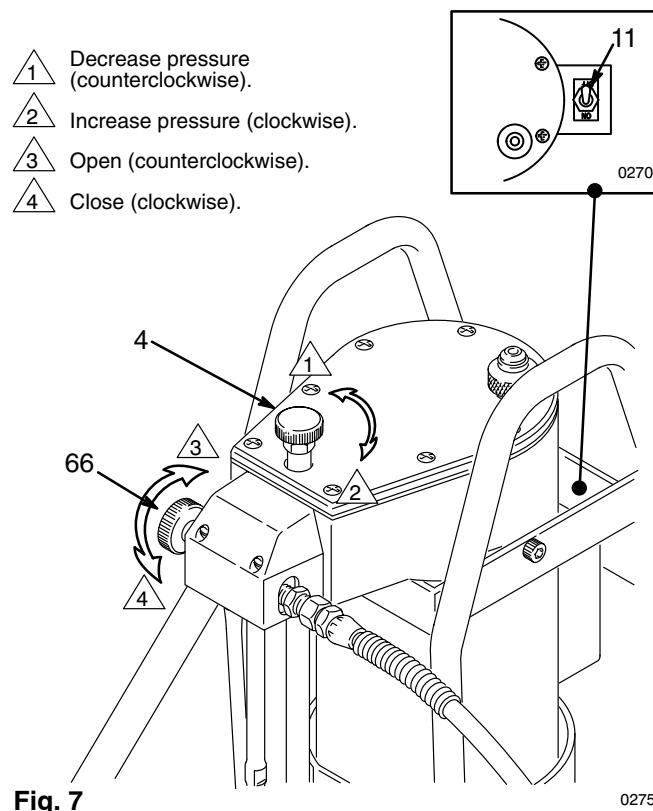

Fig. 7
- Shut off the sprayer. Lock the gun trigger safety lever. Open the bypass valve ONE turn **counterclockwise**. Raise the paint pump just above the paint and turn on the sprayer to drain the paint. Now turn off the sprayer. See Fig. 7.